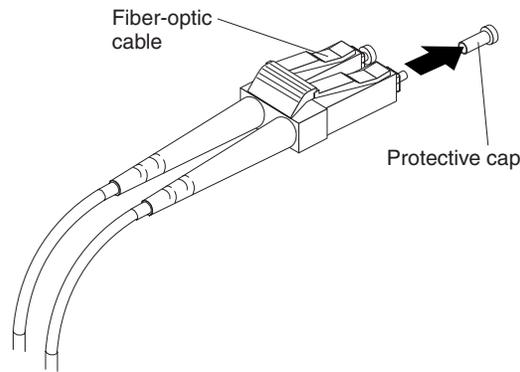

Figure 34. Removing caps from fiber-optic cables
1. Remove the protective cap from the fiber-optic cable. See Figure 34 on page 43.